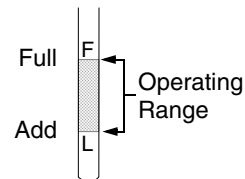

Figure 48
- Always keep the oil level between the 'F' (full) and the 'L' (add) marks on the dipstick. See Figure 48.
- SLOWLY pour oil into the crankcase until the oil level reaches the "FULL" mark on the dipstick. Refer to Figure 48.